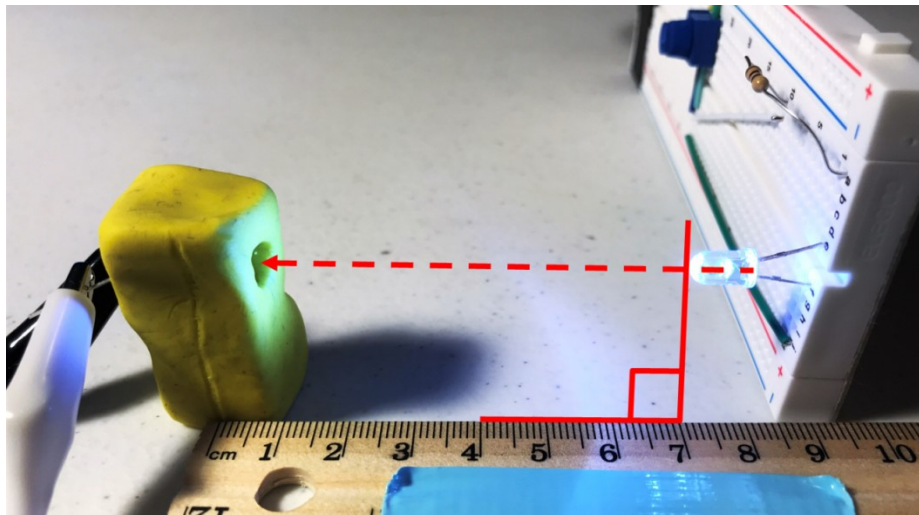

Fig. 8: Source LED aligned at 7 cm and shining directly at the detector LED
2. Use a pen or similar tool to poke a hole through the pillar near the top (see Fig. 4b & c). The hole should be at about the same height as the source LED when the breadboard is lying on its side (look ahead at Fig. 8 to see why).
7. Adjust the height of the detector LED/pillar and/or the height of the source LED on the breadboard so that the two LEDs are at about the same height (look ahead at Fig. 8).
Note: Since the detector LED is recessed from the opening, you will have to approximate where the front of the LED is and line up that point with the zero mark on the ruler. It might make it easier if you scratch a mark on the side of the clay where you estimate the front of the LED is. Then use this for alignment (see Fig. 8).